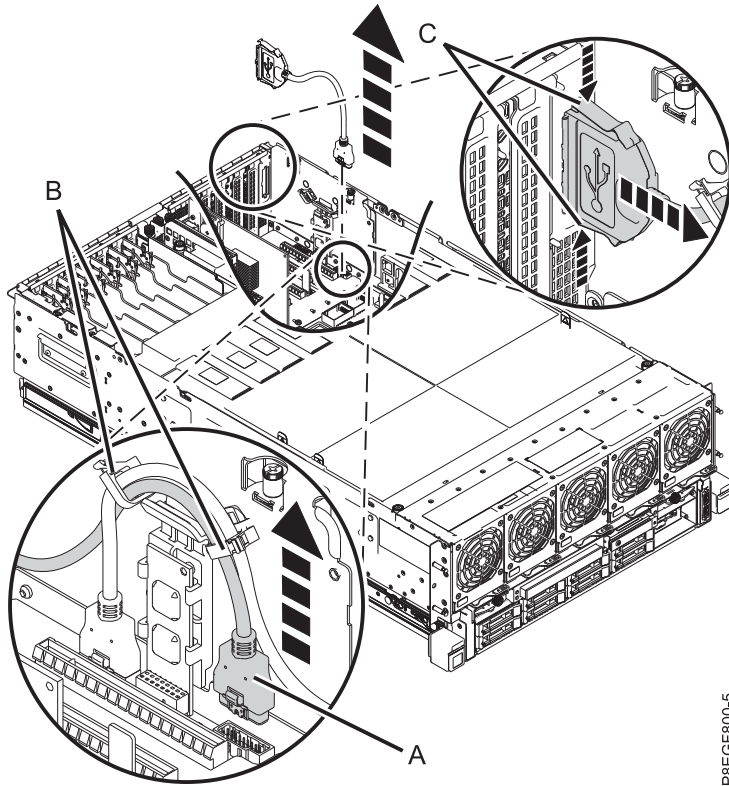

Figure 2. Removing the rear USB cable
- a. Press the latch of the rear USB cable (A) and unplug the cable from the I/O backplane as shown in Figure 2 on page 5.
- b. Remove the cable from the retaining clips (B).
- c. Remove the USB cable from the rear of the system by pressing the latches (C) of the cable and pulling it out of the system.